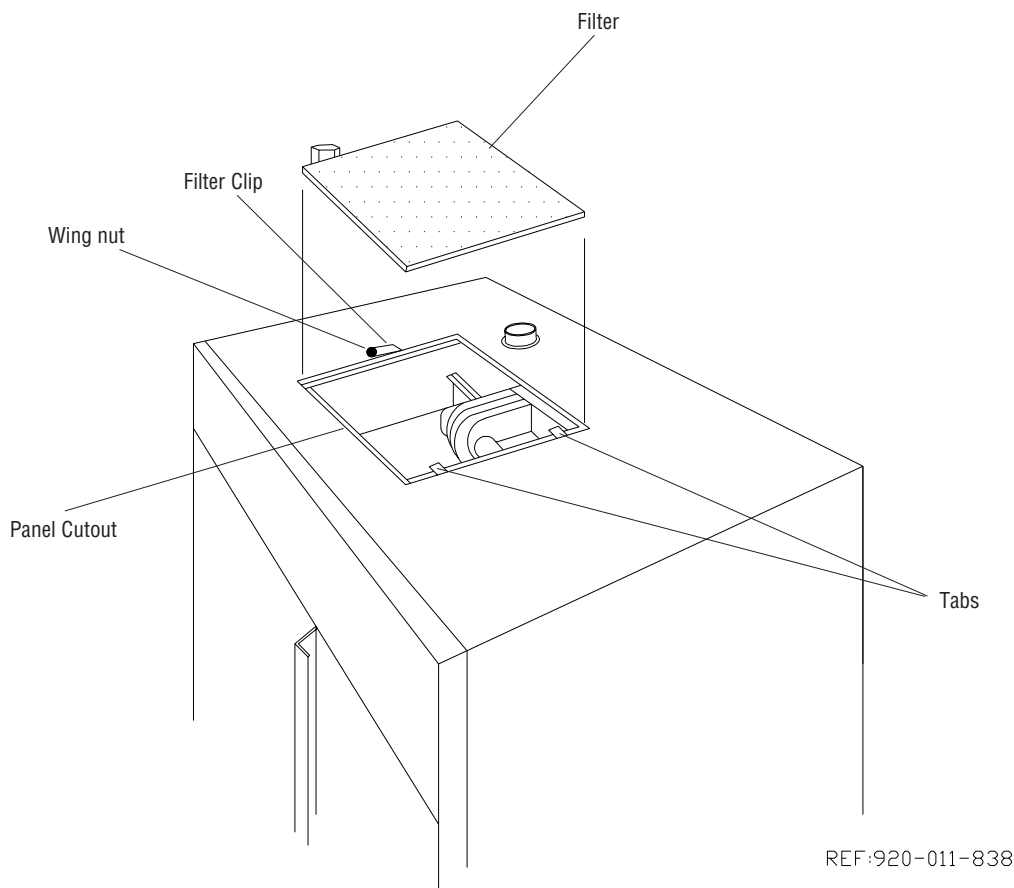

Figure 2-3. Check Filter Installation
2. Check that filter is correctly installed in top access panel. Filter should rest in panel cutout, under tabs (see Figure 2-3).